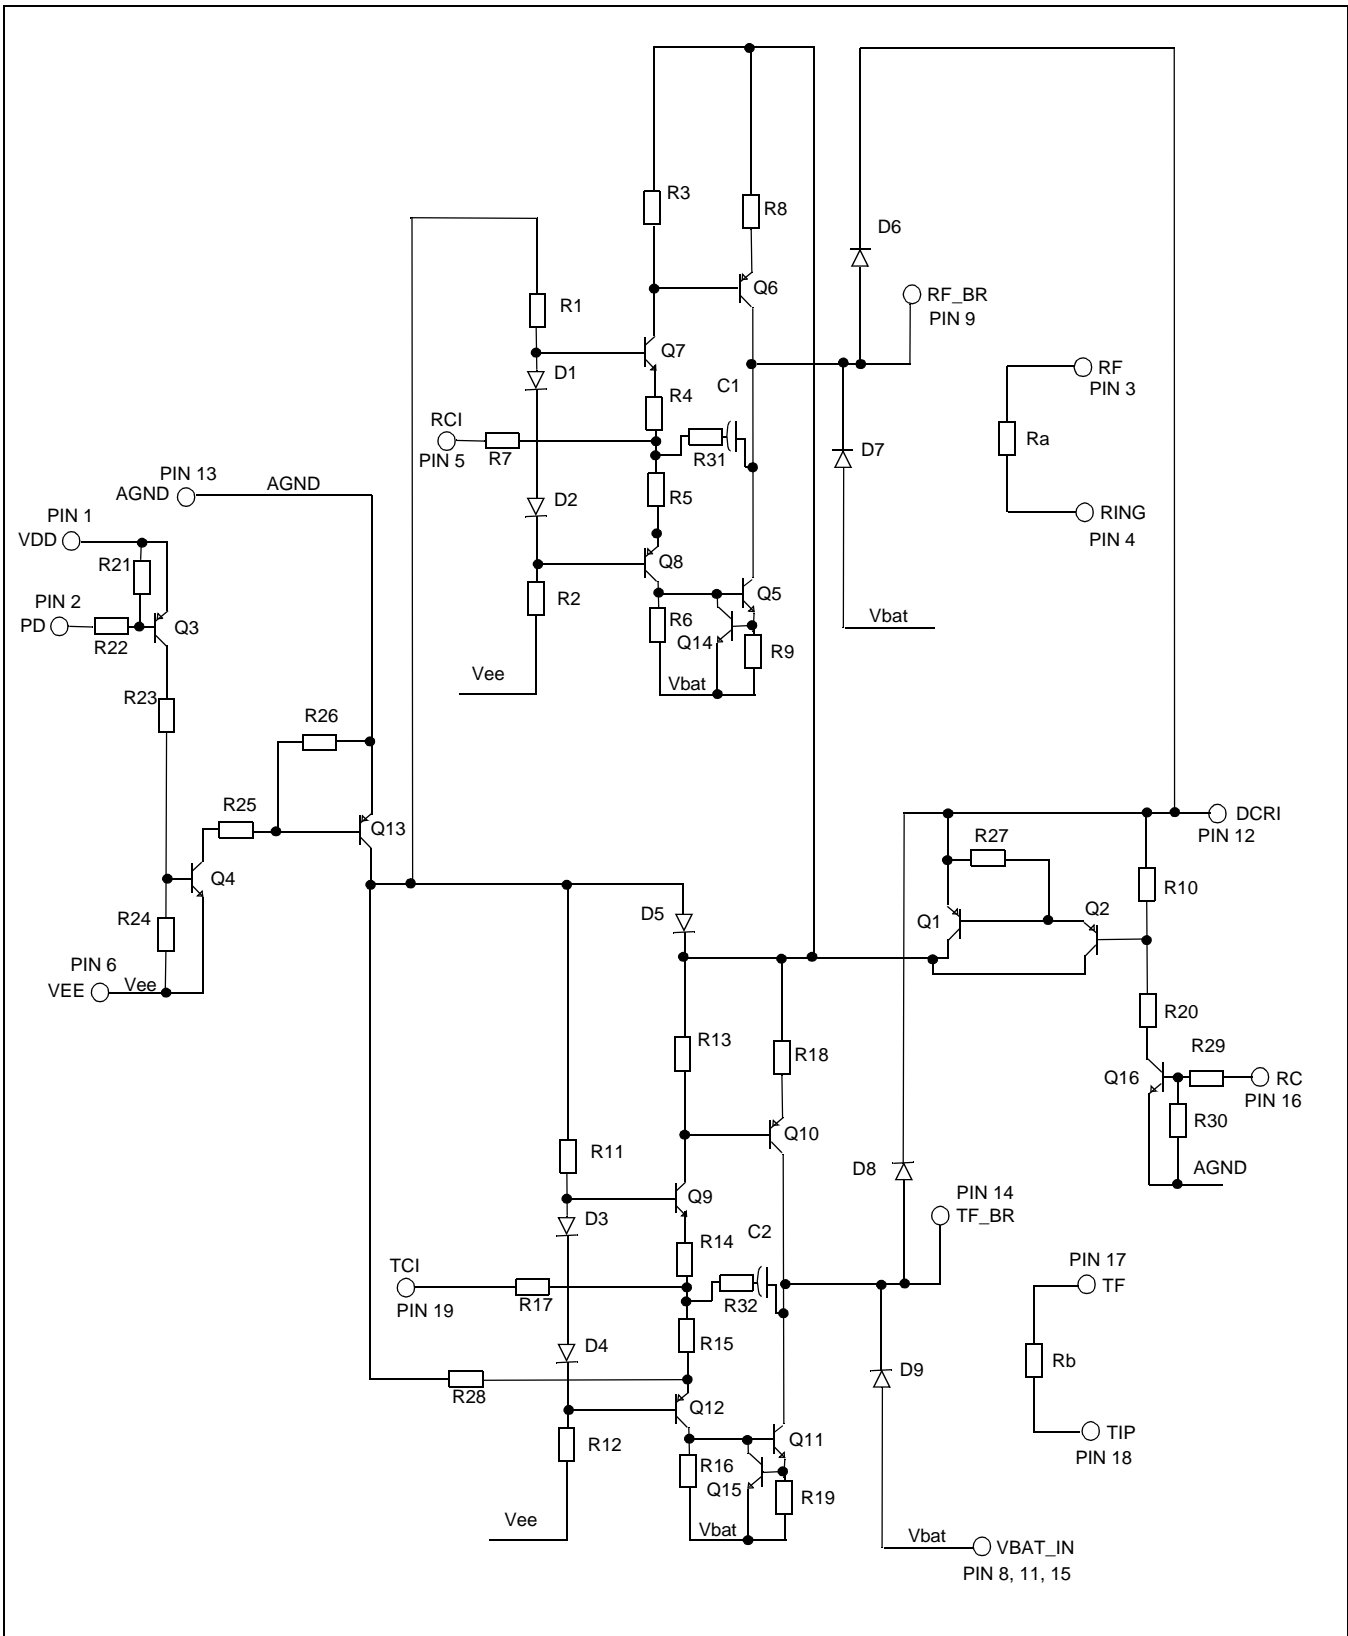

Figure 5 - Line Driver Stage
**Component List for the TIP/RING Line Driver** - Refer to Figure 5 for component designation and recommended configuration
Note 2: Tip and Ring drivers to be limited to about 50mA externally (Figure 5). If the UD pin is asserted for longer than 5 seconds, then PD should be asserted to power down the device. The device should then be checked (by de-asserting PD) every 5 seconds.